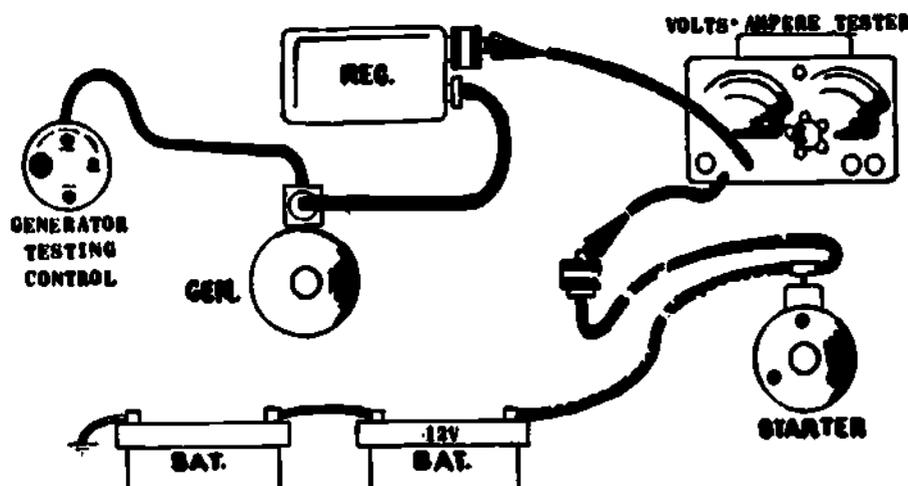

Fig 1-19. Generator output test connections.
5. **Output test** (fig 1-19). This is a load test to check generator output and drive belt slippage. The generator is operated at its rated capacity and the engine rpm is observed. The rated output should be obtained at or below specified engine rpm. When making this test be careful not to exceed generator output as indicated on the data plate or in the TM.